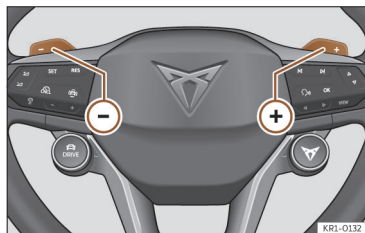

Fig. 107 Multi-function steering wheel: energy recuperation levers.
- Pressing the steering wheel levers + or – temporarily activates the manual selection of the energy recuperation level.>>> **Fig. 107** Automatic recuperation is reactivated by pressing the accelerator pedal again.
- Select the energy recuperation level with the steering wheel levers + or – >>> **Fig. 107**.